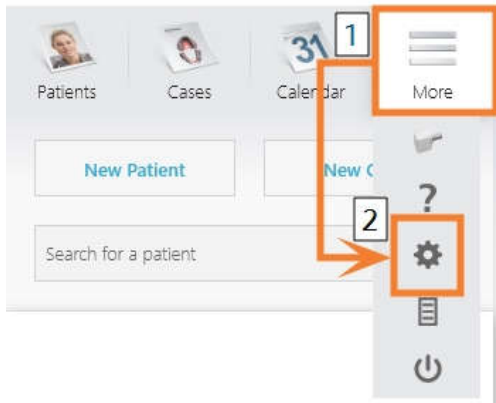

FIG. 18 – OPENING THE SETTINGS IN TRIOS DESIGN STUDIO
9. In the menu bar, select **More**. In the drop-down menu, select the **Settings** icon (↗ Fig. 18 – on the next page).